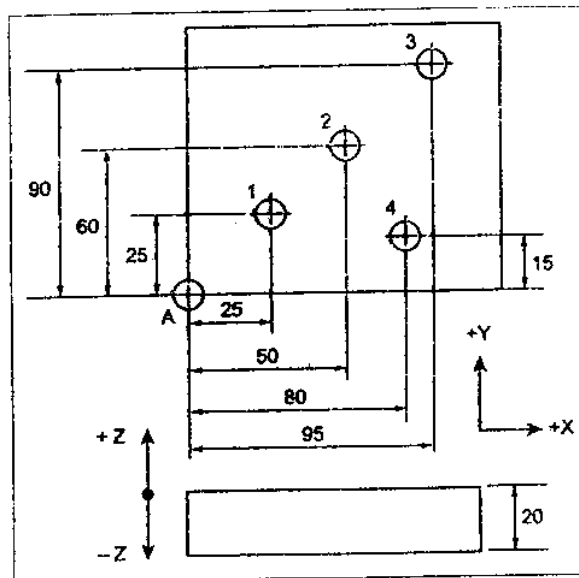

Fig. 2
- (ii) Write a part program for drilling holes in the part shown in Fig.2. The plate thickness is 20mm. (8)